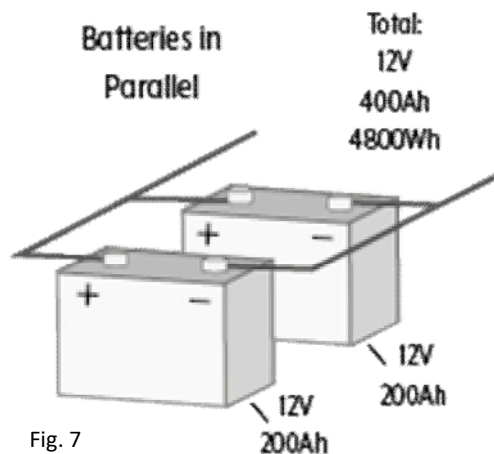

Fig. 7
- In parallel to increase amp hours (Fig.7).